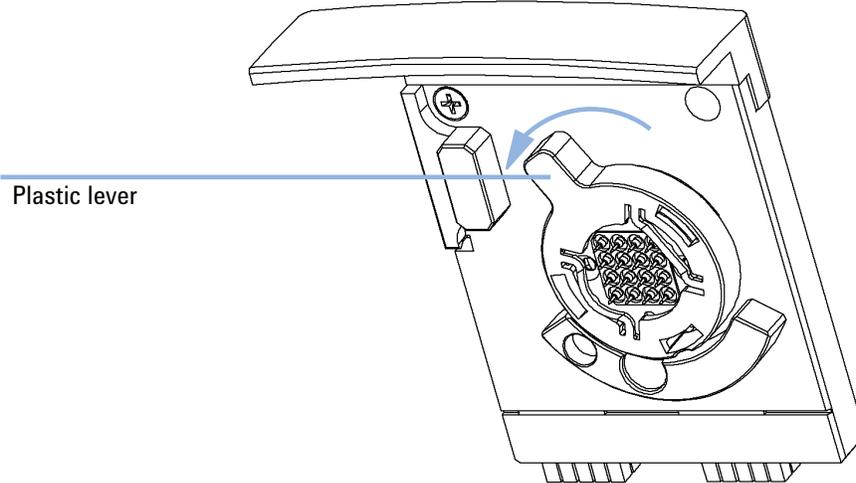

Figure 3 Opening the Bayonet Socket of the Pin Set
- 2 Open the bayonet socket of the pin set by turning the plastic lever to the left as described in Figure 3.